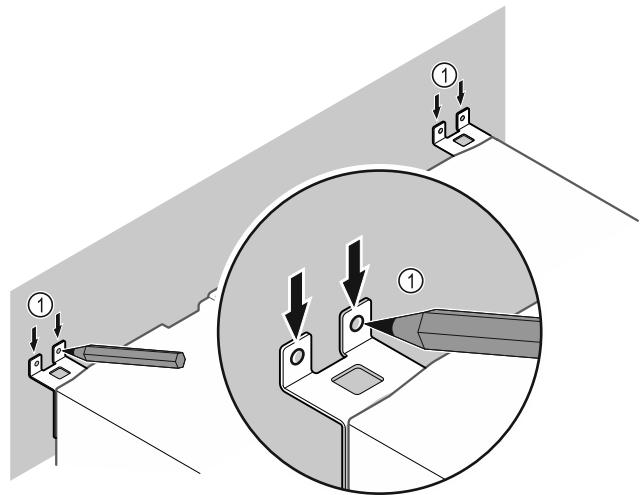

Fig. 11
- ▶ Make markings on the wall Fig. 11 (1).